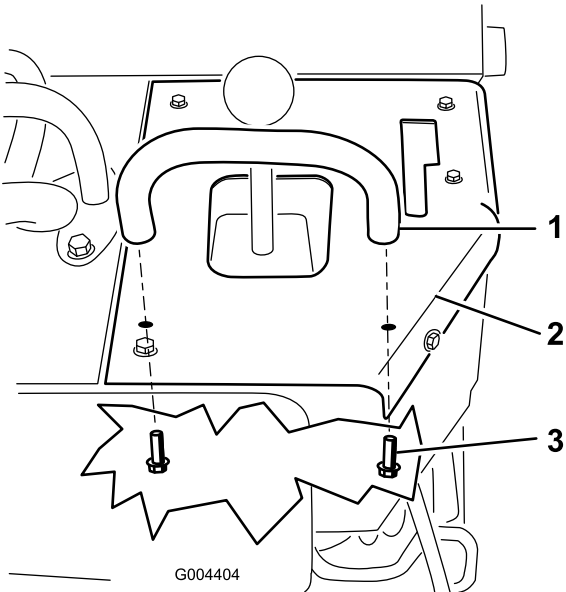

Figure 9
3. Secure the reference bar to the control panel using 2 bolts (5/16 x 3/4 inch), installing them from inside the machine (Figure 9).